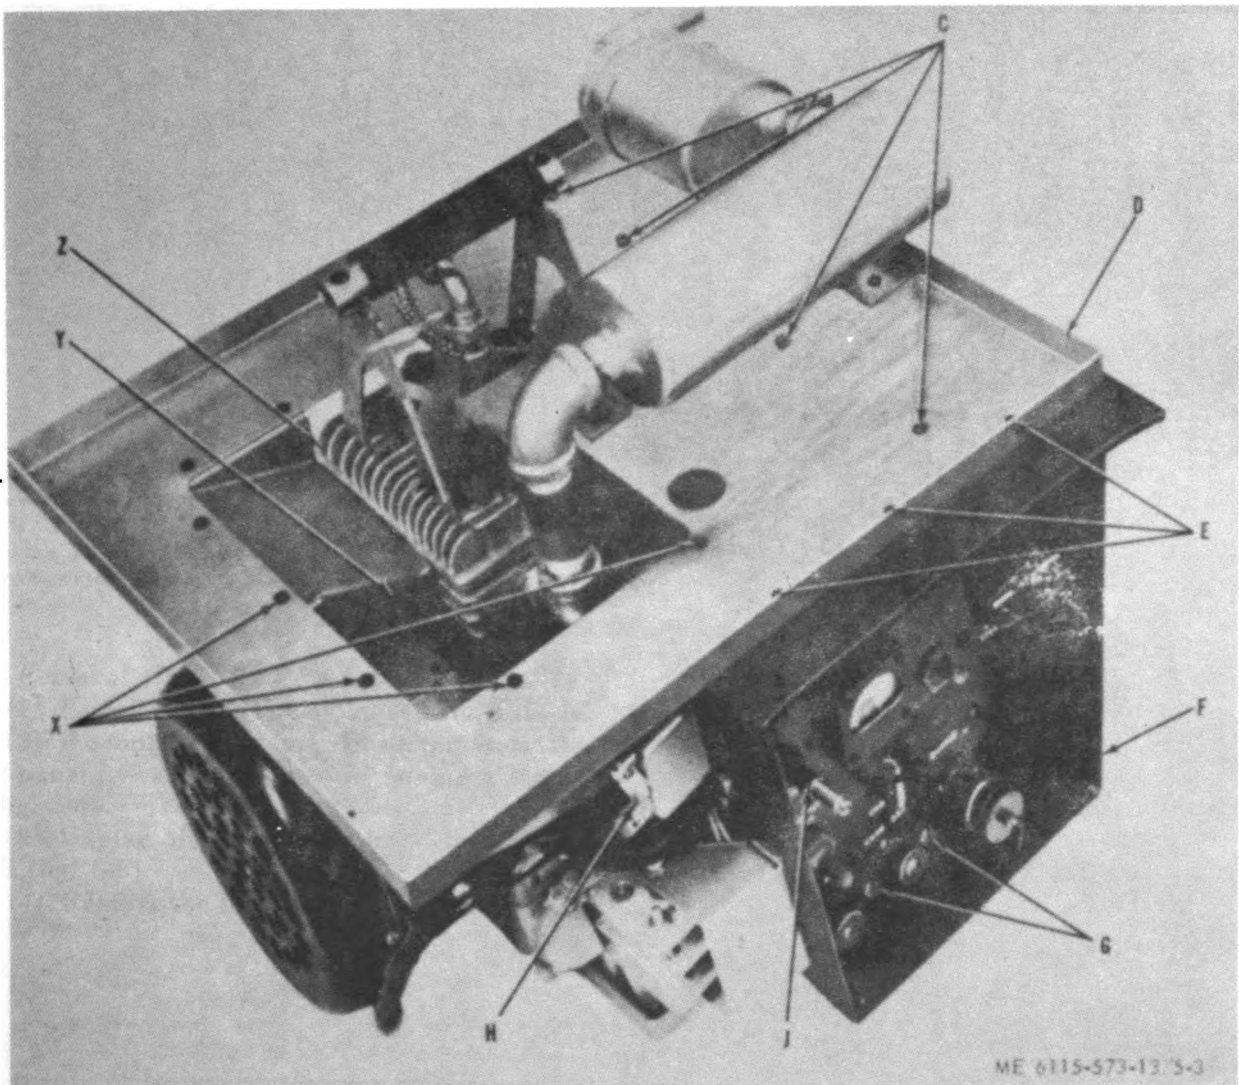
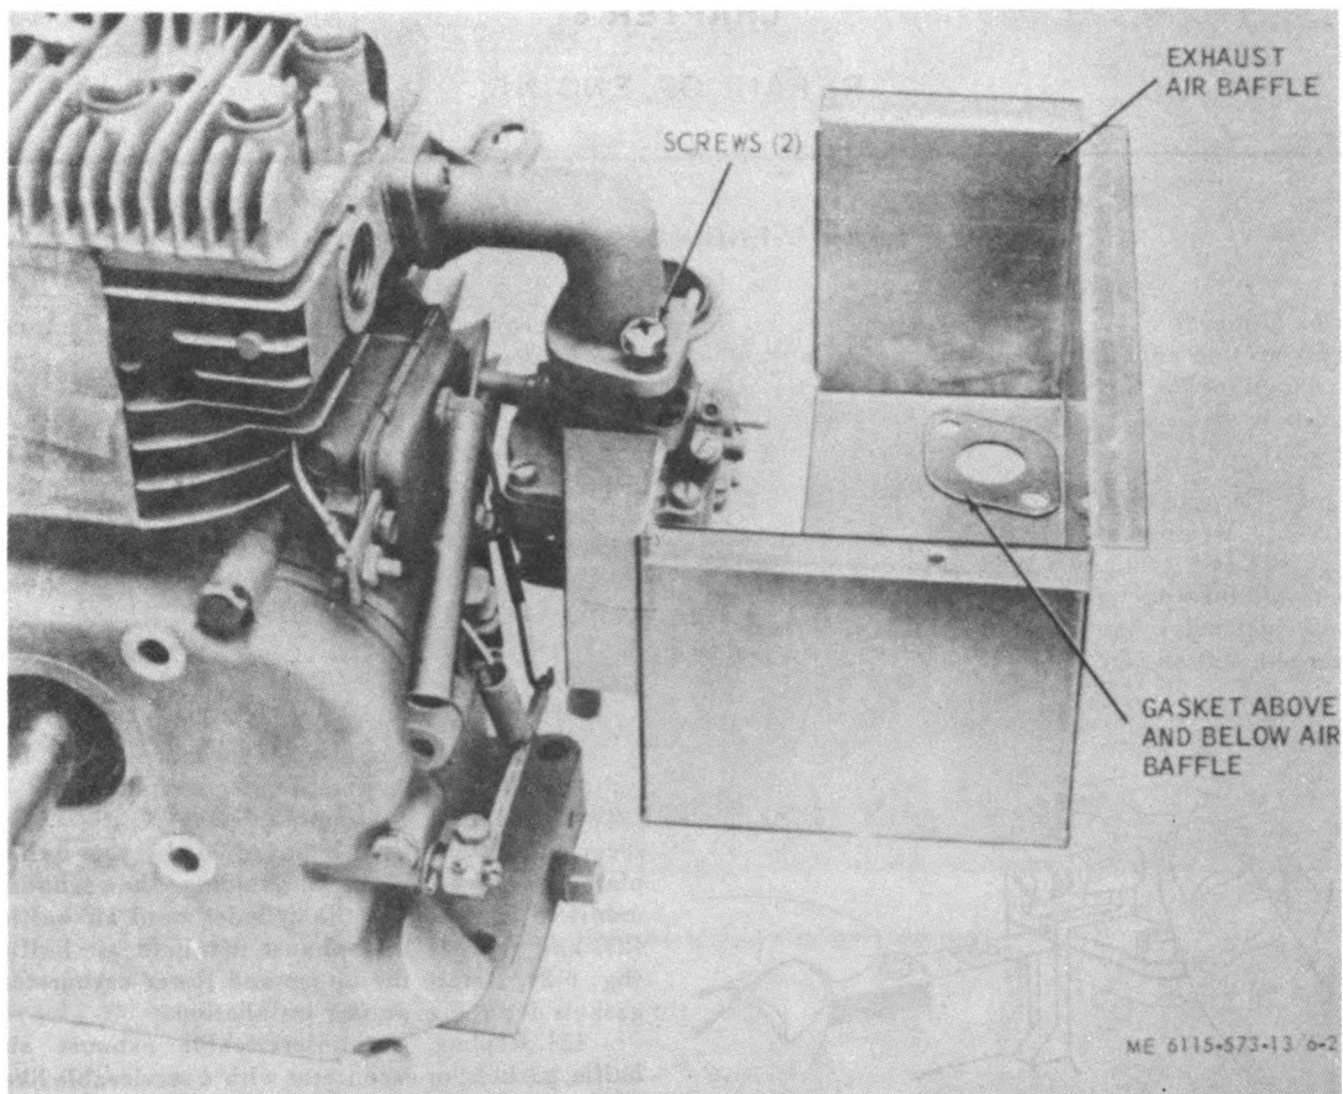

Figure 5-3. Control panel and side panel, removal and installation (PU-422B / U).
Figure 6-2. Carburetor and exhaust air baffle, removal and installation.
(8) With reference to figures 5-3 and 5-4, remove the four screws (C) from the top baffle plate
(5) Remove the four screws (C, fig. 5-3) securing side plate to the top of the engine.
(6) Remove the two screws which secure the side plate to the flywheel housing baffle.
(7) Remove the electrical assembly.
- (1) Remove the control and side panels (para 5-5).
- (2) Working from the top plate (D, fig. 5-3), remove the two head screws (fig. 6-2) located in the exhaust air baffle well. These screws hold the intake manifold, exhaust air baffle, and the carburetor together. As screws are removed, hold carburetor so it does not drop.
- (3) Remove carburetor completely by unhooking throttle linkage from governor arm.
- (4) Remove the four screws (X, fig. 5-3) securing the exhaust air baffle to the top baffle plate. Remove the screw holding the exhaust manifold air baffle to the cylinder head air baffle (2), and remove the exhaust manifold air baffle (fig. 6-2). Retain the upper and lower carburetor gaskets for reuse during installation.
- (5) Replace an unserviceable exhaust air baffle, gaskets, or carburetor with a serviceable like item.
(1) Use new gaskets and new parts where necessary.
(2) Screw inlet seat with gasket securely in place and drop float valve needle into seat.
(3) Place body gasket on upper body and assemble float.
(4) Invert upper body to check the float level. The float should be parallel to the body mounting surface. If not, bend tang on float until they are parallel (fig. 6-4). Assemble venturi and gasket to lower body and to the air baffle (fig. 6-2).
(5) Be sure the holes in the gaskets and body are aligned.